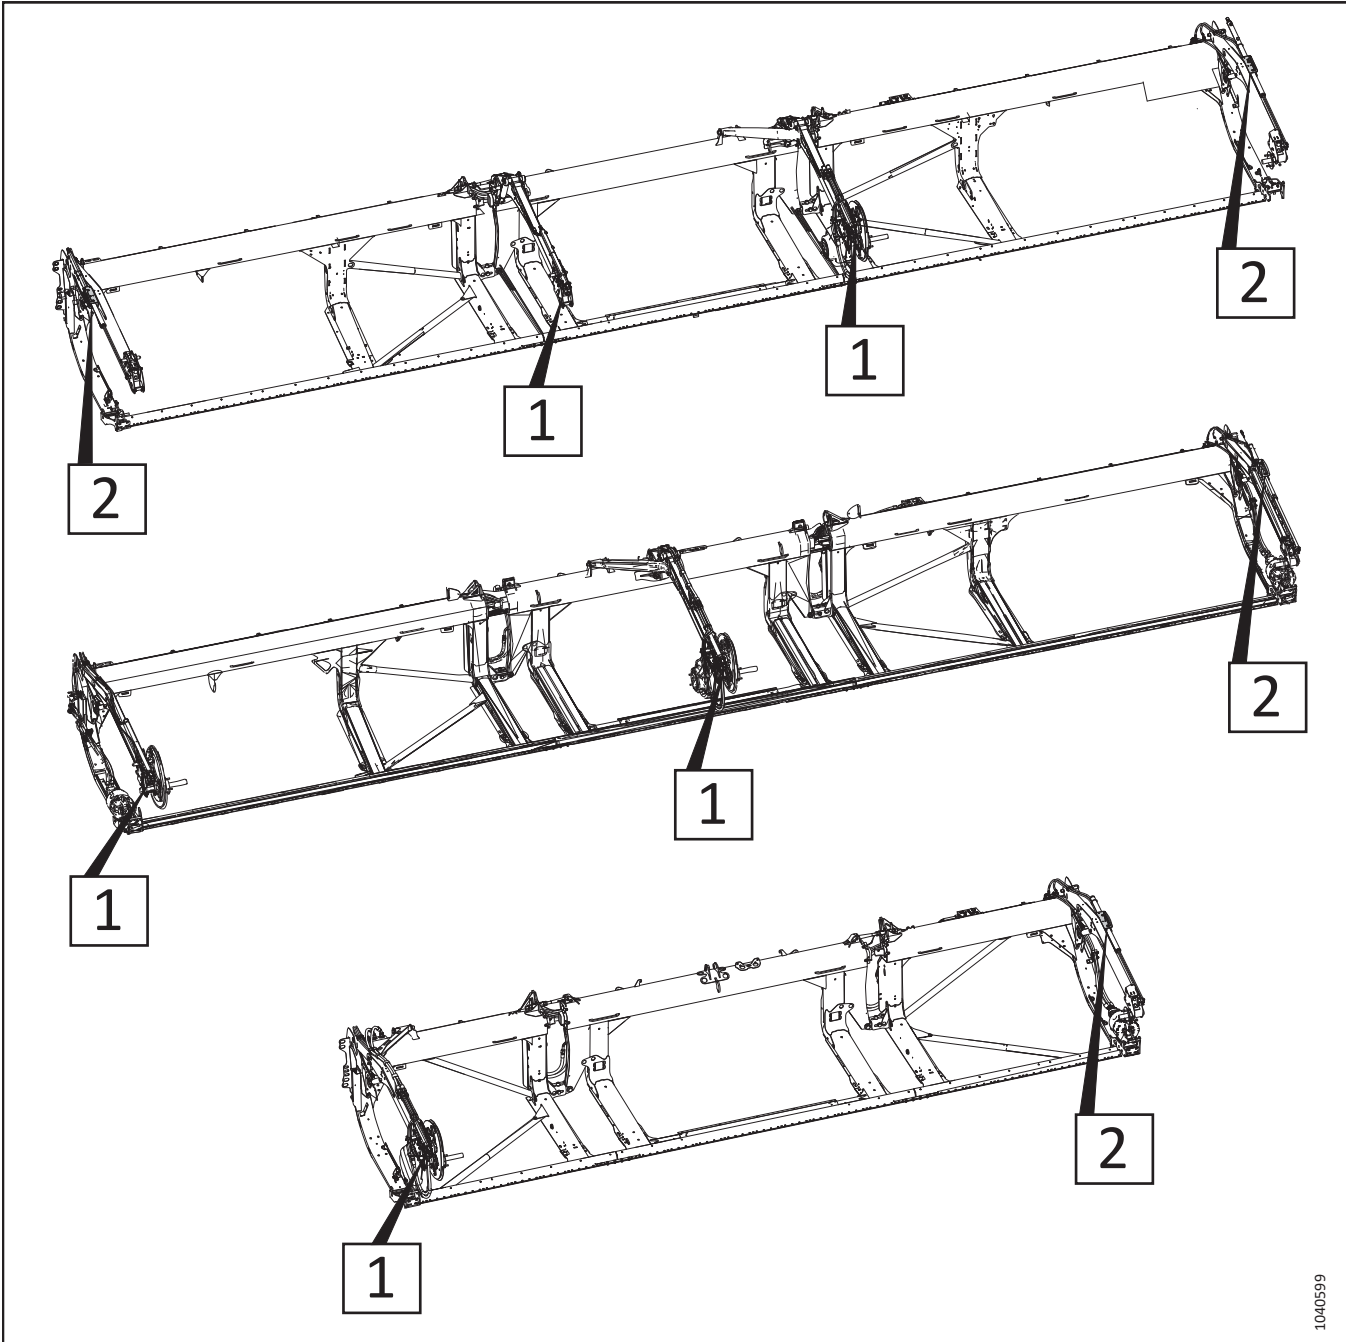

Figure 3.397: Adjustable Fore-Aft Cylinders – Procedure Reference Numbers
5. Refer to Figure 3.397, page 266 to determine the fore-aft cylinder adjustment procedures for your header type. The number on the illustration refers to one of the following procedures: